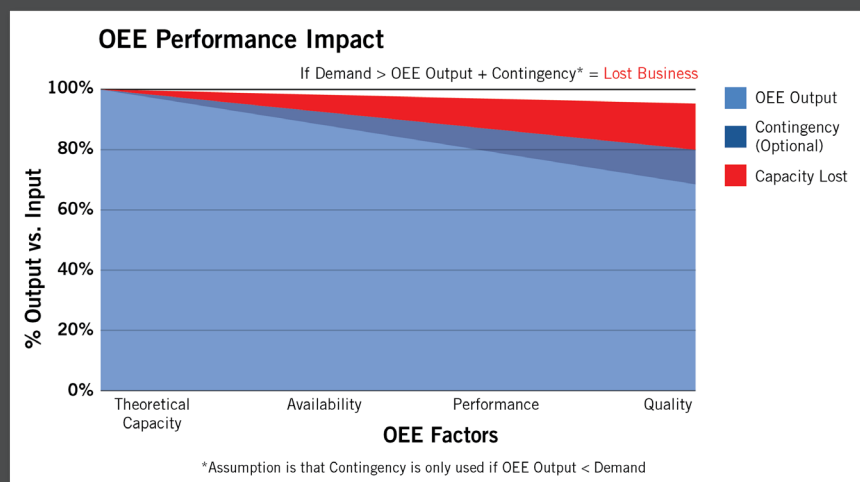

Figure 4 - Lost Business
- Lost Business is the Gross Margin on the lost sales ($\text{Demand} - \text{Total Capacity}$) (if $\text{Demand} > \text{Total Capacity}$) (Figure 4).